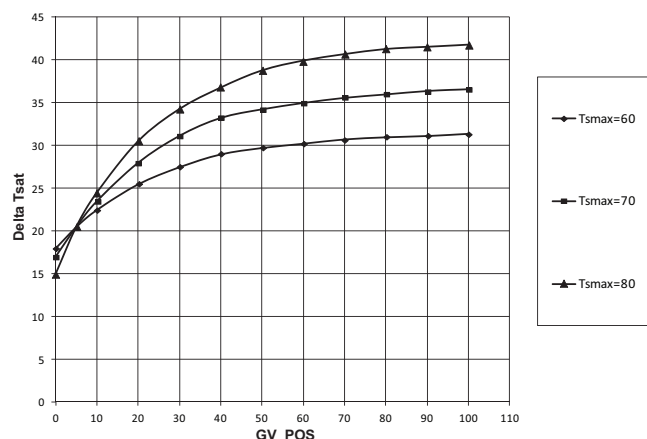

Fig. 38 — Effect of SURGE/HGBP DELTA TSMAX on Surge Prevention
- Surge/HGBP Delta T_{max} is the maximum difference between cooler and condenser saturation temperatures. (See Fig. 38.)